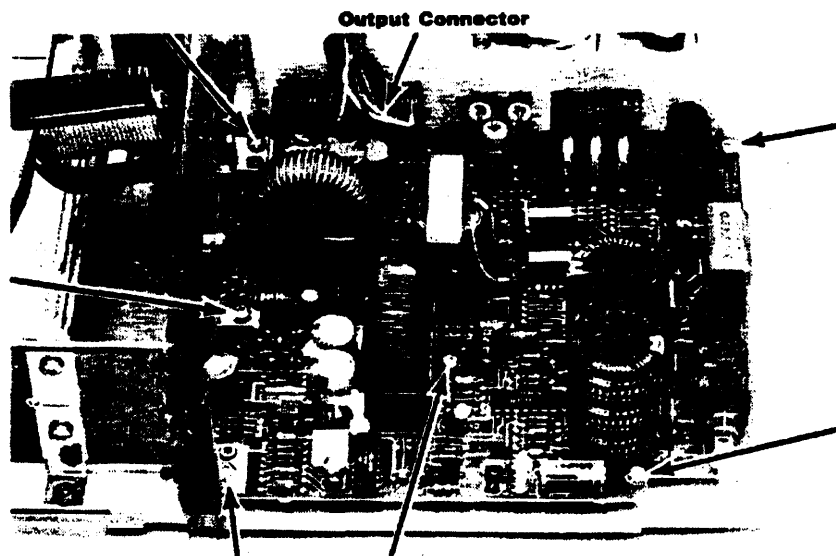

Figure 6-31b. Power-Supply Assembly Showing Mounting Screws
5. Remove the six screws holding the power-supply assembly (see figure 6-31b).